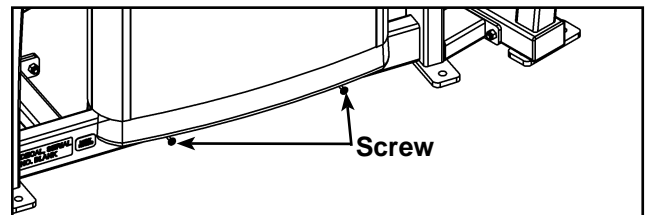

Figure 12
- A. Carefully place shroud assembly back into position on the two bottom screws. See Figure 12.